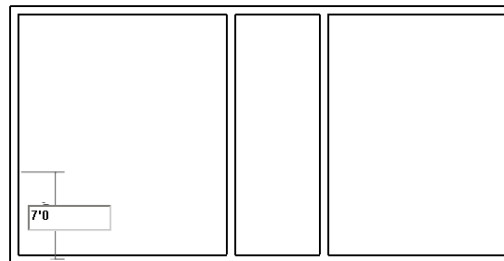

Figure 3-60 Specifying the distance for sketching the third internal wall
3. Move the cursor to the lower left corner and then move it vertically upward. When the temporary dimension appears, enter **7'0" (2134 mm)** and then press ENTER to specify the starting point of the third interior wall, as shown in Figure 3-60.